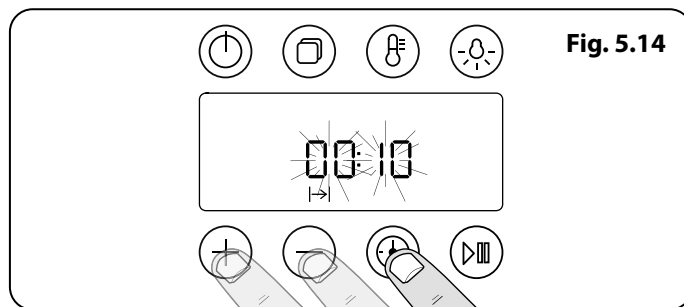

Fig. 5.14
2. Tap the timer button to set the 'cook period' hours using the [+] or [-] buttons. Tap the timer button again to set the minutes using the [+] or [-] buttons (**Fig. 5.14**).